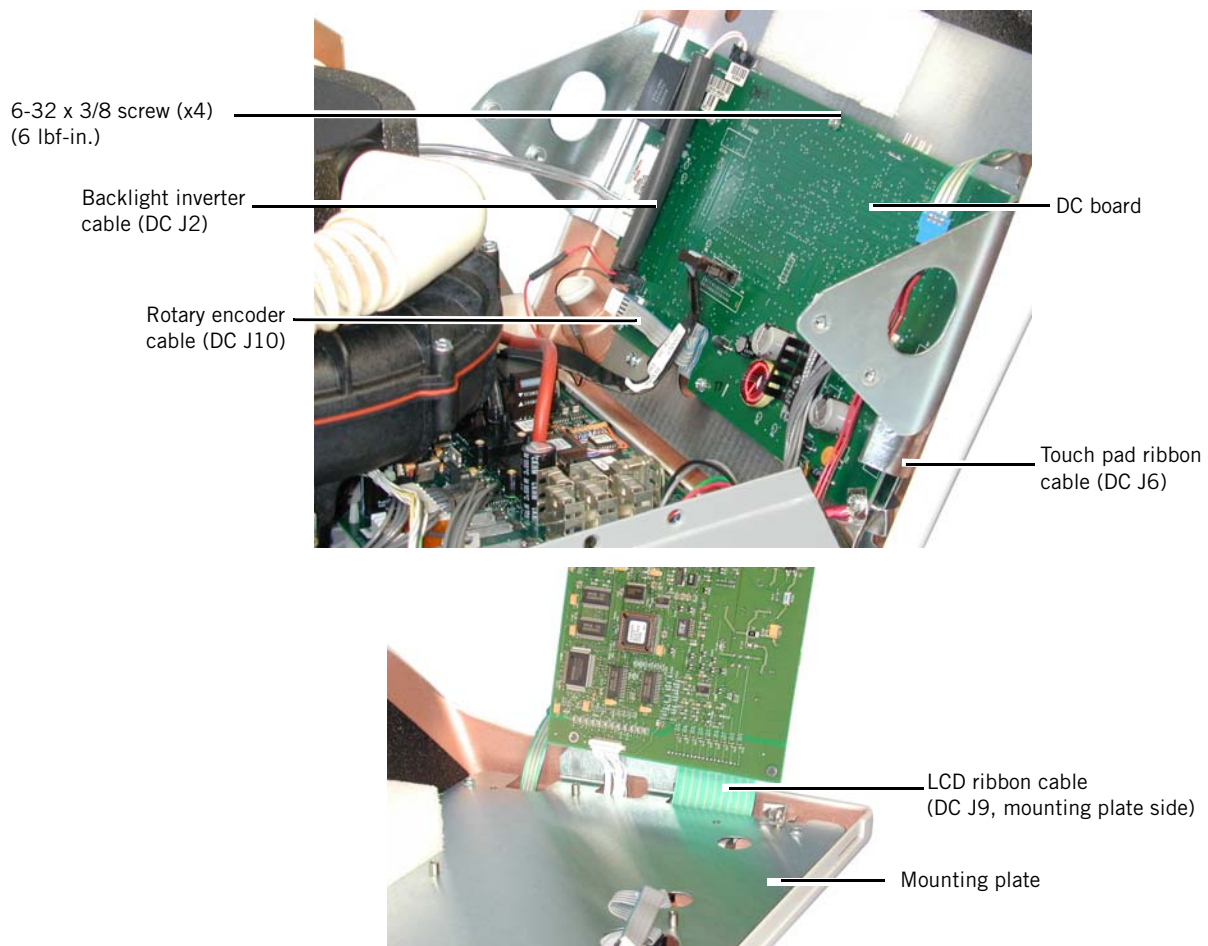

Figure 5-13: Removing the DC Board
Follow these steps to remove the DC board (Figure 5-13). Reverse to install.
3. Place the front panel enclosure face down on a protected surface, and gently remove the touch pad ribbon cable from DC connector J6 (Figure 5-13).